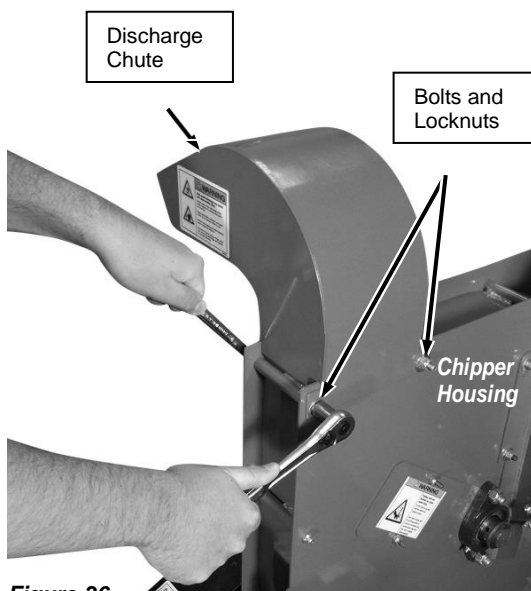

Figure 36
3. Remove the two Bolts and Locknuts that secure the Discharge Chute to the Chipper Housing with two 1/2" Wrenches and then remove the Discharge Chute (**Figure 36**).